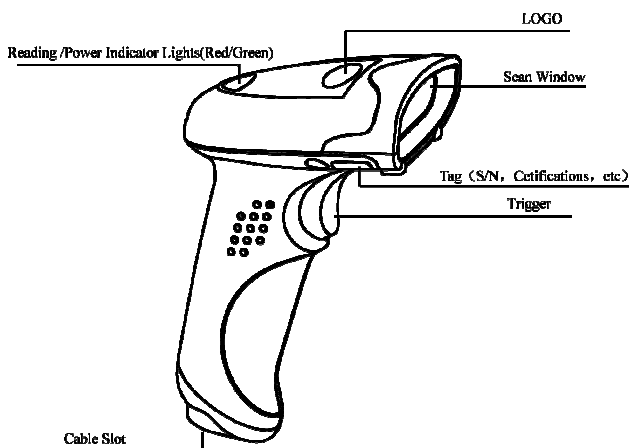

Fig. 1-1
1. Plug the RJ45 connector into the cable slot (see Fig.1-1) on the scanner.